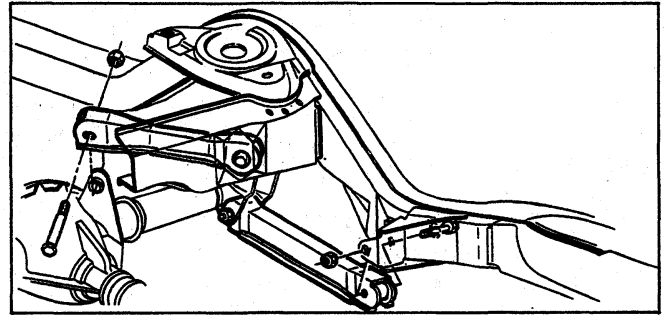

Fig. 43—Upper and Lower Control Arm Assembly (Chevelle)
1. Place control arm into position between the forward and rearward mounting brackets and install retaining bolts. Refer to Figure 43 for installation view of control arms.